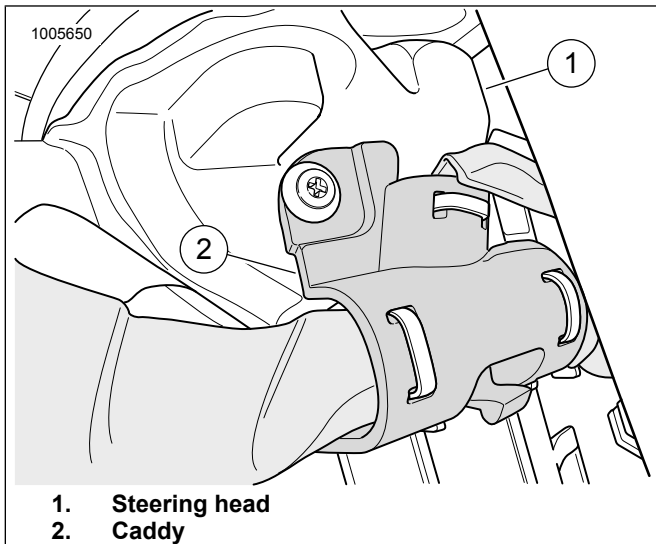

Figure 8. Steering Head
9. See Figure 8. Route end of 48-in. harness to steering head (1). Use caddy (2) to secure harness.